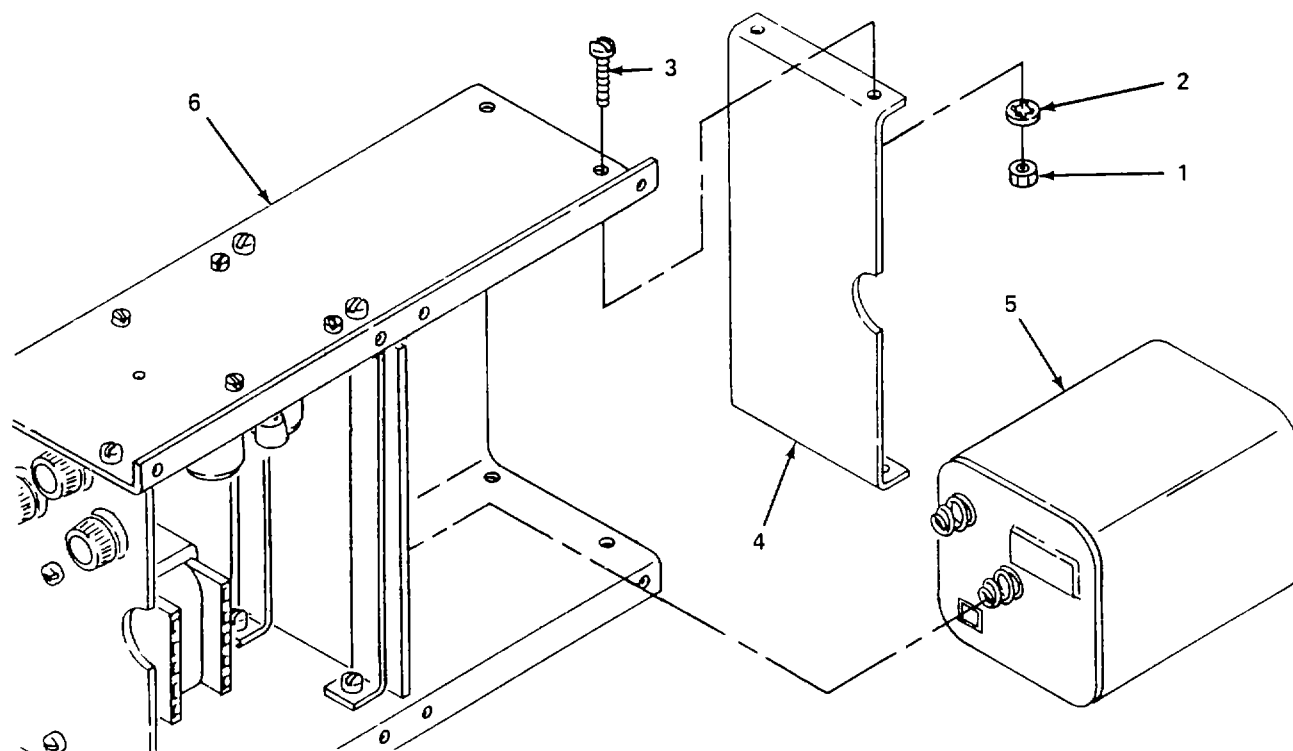

Figure 5-42. Battery Card and Case, Replace.
(1) *Replace batteries.* (figure 5-42)